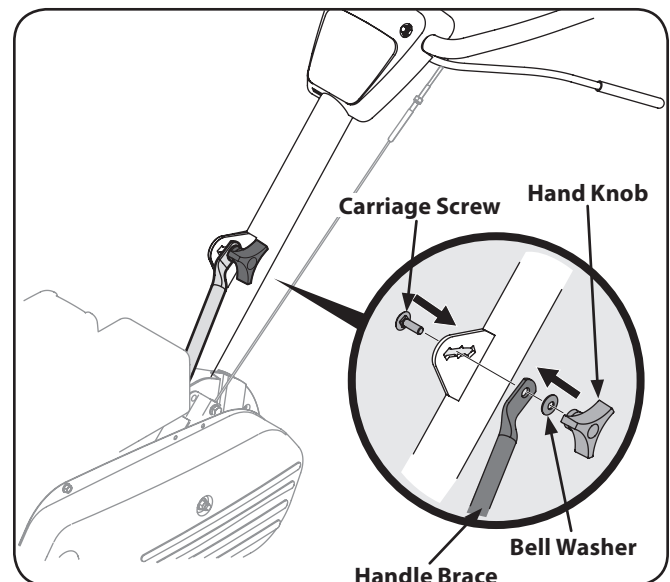

Figure 3-4
6. Tighten the bolt securely after securing the handle brace as seen in Fig. 3-4.
8. Insert the carriage screw through the bracket on the handle, bell washer, handle brace and into the hand knob. See Fig. 3-4.
9. Select one of the three handle height positions (three notches in the welded handle bracket) and tighten the hand knob to secure the handle in the desired position. See Fig. 3-4. Return to the lower handle and tighten the hex bolt securely.